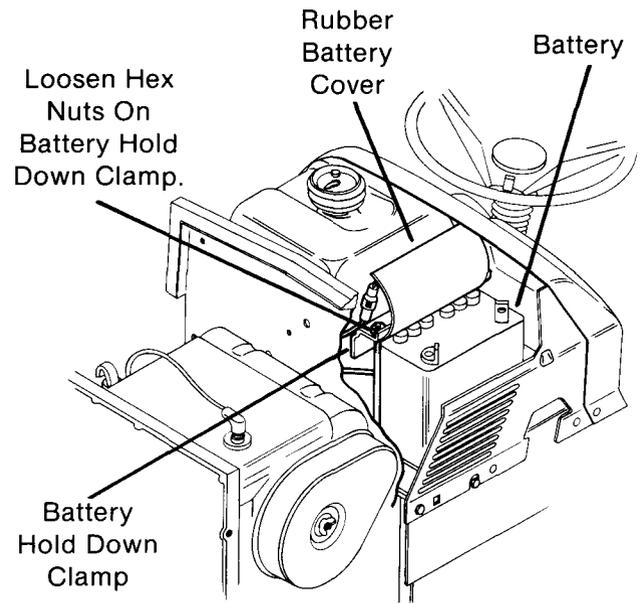

FIG. 37
- B. Loosen (do not remove) two hex nuts on battery hold down clamp. (Fig. 37)